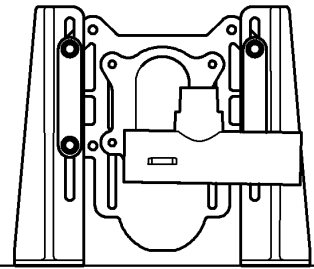

Figure 5b
- For fitting in the highest position, see **Figure 5b**.